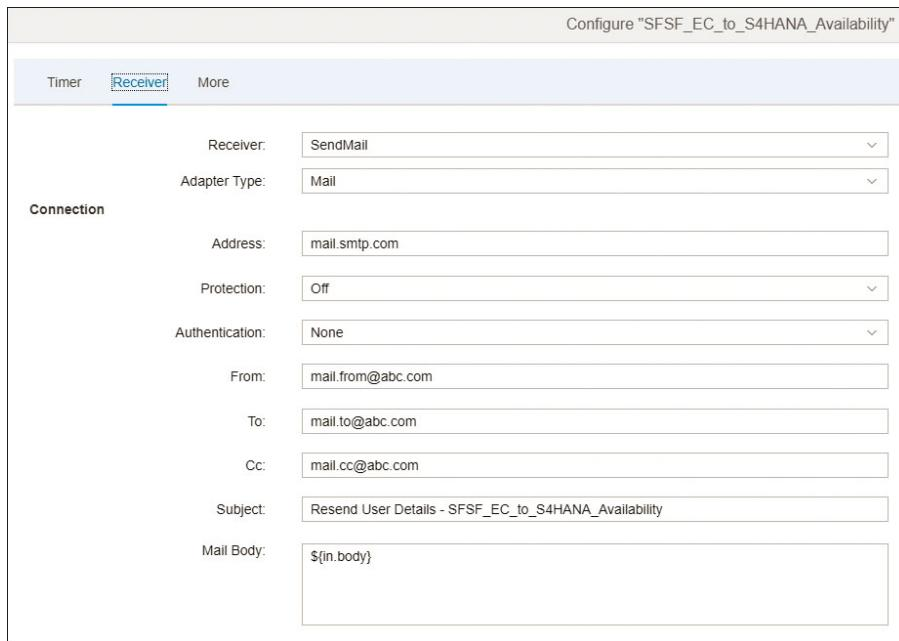

Figure 3.22 Configure the Receiver Connection Details of an Integration Flow
4. If the integration flow does have configurable attributes, configure the details of each tab shown in Figure 3.22. Notice that in this screen, the **Time**, **Receiver**, and **More** tabs are displayed, but there are even more tabs available. A complete list of possible configuration tabs and their explanations are available in Table 3.1.
Receiver	Configure the connectivity details of the receiver adapter. See the example in Figure 3.22 .
5. After you've made the desired changes in the previous step, click on the **Save** button, as shown earlier in Figure 3.22.
6. Deploy the integration flow on the tenant by using the **Deploy** option (refer to Figure 3.22.)